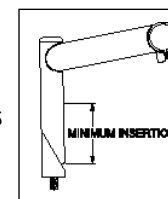

Fig. 1
2. Install the headset race (26.4 mm inner diameter for 1" steerers, 29.9mm inner diameter for 1-1/8" steerers) firmly against the top of the fork crown. Install the fork assembly on the bike. Make sure there are sufficient threads to properly lock the headset in place. On threadless steerers (Aheadset design), make sure there is sufficient length to properly clamp the stem (refer to stem manufacturer's instructions). Adjust the headset so you feel no play or drag. (see Fig. 1)